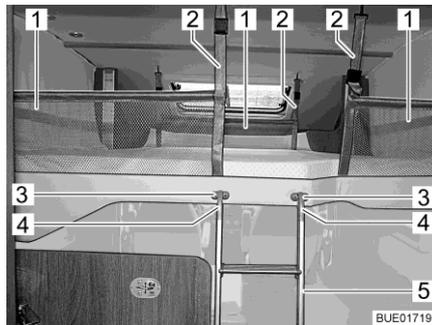

Fig. 96 Pull-down bed complete with applied safety net
- Safety net** The three safety nets (Fig. 96,2) with their retaining belts are located underneath the mattress in the pull-down bed. Only use the safety nets if persons are already in the pull-down bed.
- Attach retaining belts (Fig. 96,1) to the hooks on the ceiling.
- Hook both bows (Fig. 96,4) of the access ladder (Fig. 96,5) into the holders (Fig. 96,3).
- Release the access ladder (Fig. 96,5) from the holders (Fig. 96,3).